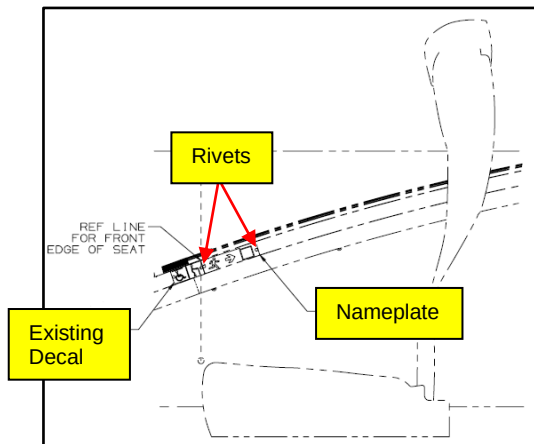
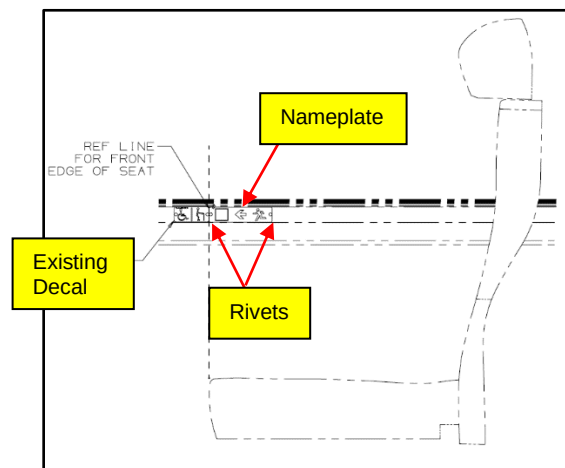

Figure 3: Nameplate and Existing Decal
Figure 5: Last Three Row Seat Configuration
5. As shown on Figure 3, butt up nameplate together with existing decal (NF PN: 03-15-7278 ref). If coach has existing decal (NF PN: 03-15-7278) at last few passenger rows, butt up name plate together (See Figure 5).